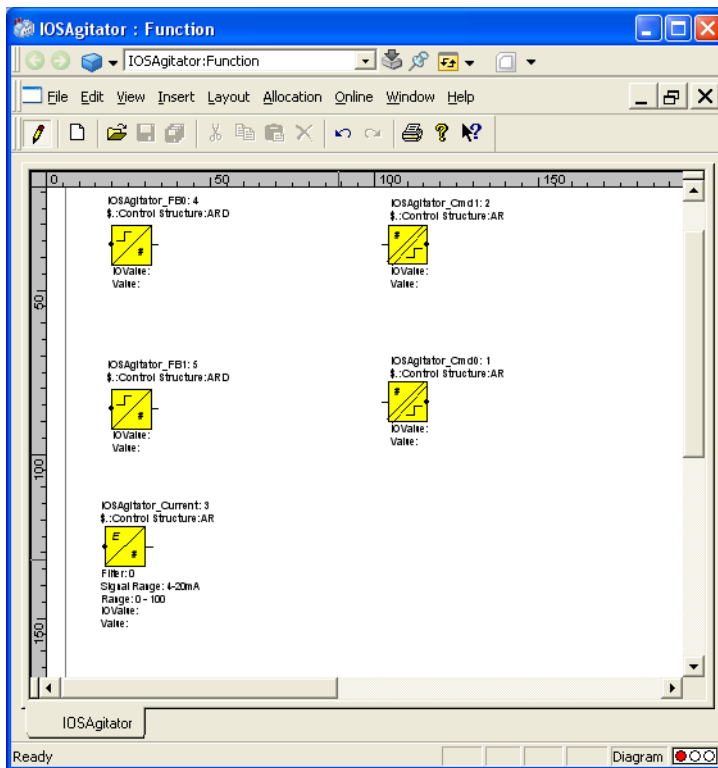

Figure 29. Function Diagram of Object Type IOSAgitator
4. Click **OK**. All CBM_Signal objects are displayed automatically in the Function Diagram. The objects can be arranged as required, refer to Figure 29.